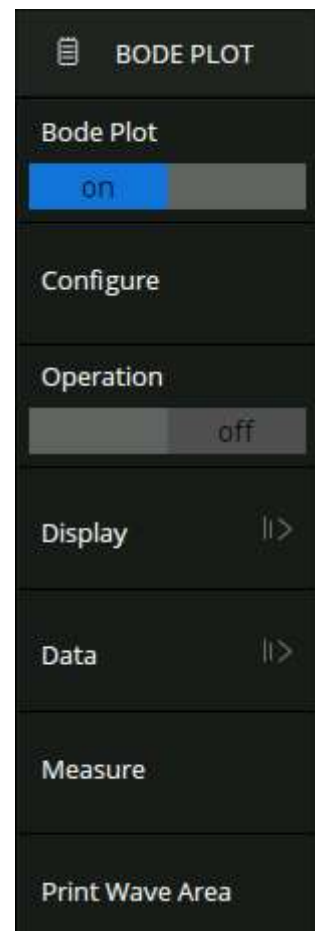

Figure 20.1 Bode Plot Menu
2. The **Bode Plot** menu shown in figure 20.1 menu will be displayed.
- Parameter measurement of scanning curve includes upper cut-off frequency (UF), lower cut-off frequency (LF), bandwidth (BW), gain margin(GM) and phase margin (PM)